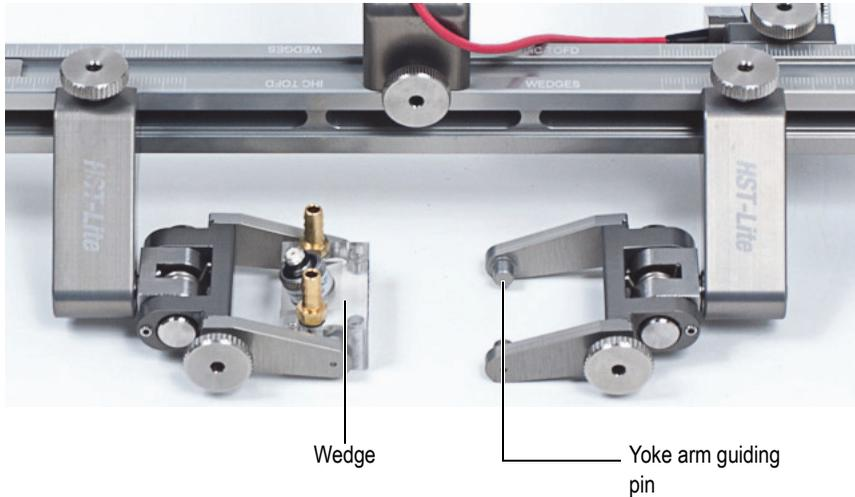

Figure 1-6 Wedge installed
4. Install the probe and wedge assembly between the two yoke arms (see Figure 1-6 on page 13).
5. Push the yoke arm in order to place the yoke arm guiding pin into the wedge side hole (see Figure 1-6 on page 13).